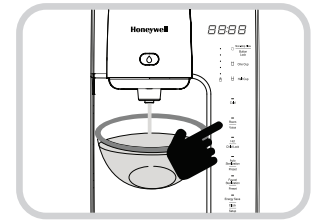

Fig. 2
- Place a cup under the Faucet, press the Room water/Voice button, and then press the Out Flow button for about five (5) seconds. (Fig. 2) (Fig. 3).